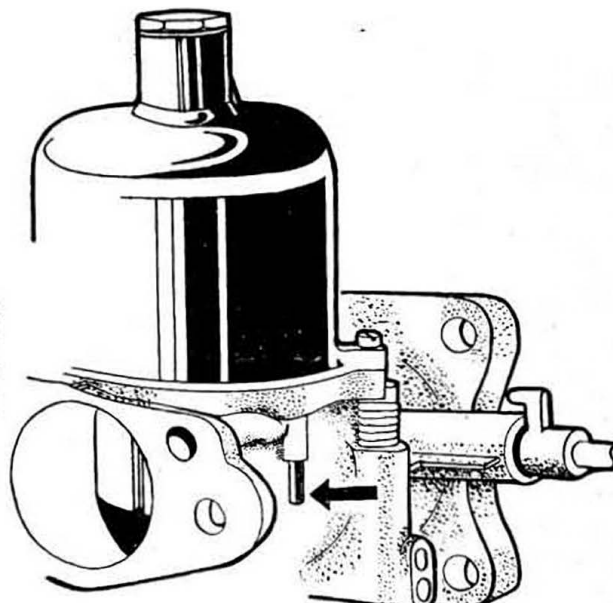

Fig.3.30. The piston lifting pin
- 10 Now refer to Fig.3.30 and check the mixture strength by lifting the piston of the front carburettor approximately $1/32''$ (0.8 mm) by means of the lifting pin (arrowed), if:-
14 Check the mixture strength of the front carburettor (see Fig.3.30) by raising the piston about 1/32" by means of the lifting pin, if:-